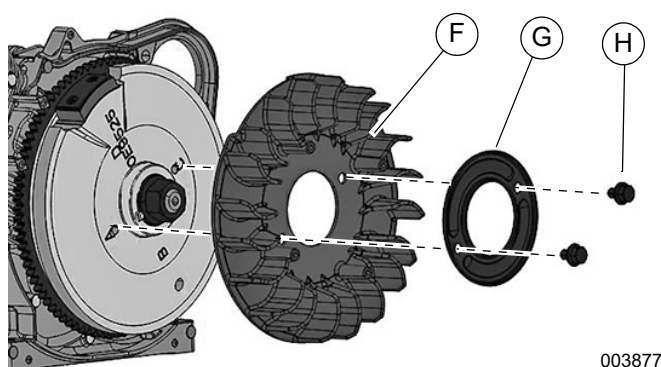

Figure 14-59. Attach Fan (HSB)
- See **Figure 14-59**. Attach fan (F) to flywheel using fan plate (G) and two fasteners (H). Tighten fasteners to 18.1 ft-lbs (24.5 Nm).